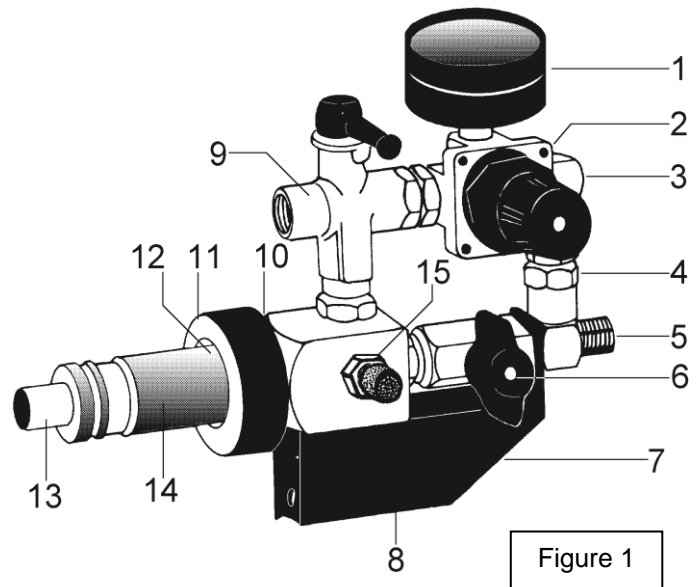

Figure 1
3.8 Turn on Start/Stop Knob (Figure 1, Item 6) to spin rotating head. Squeeze spray gun trigger to begin paint flow. Release trigger immediately if carriage movement is interrupted. It is critical that the operator pulling the PIPECOATER hose move the tool through pipe at even rate to avoid excessive paint thickness. Speed of tool movement varies with pipe diameters. Small pipes can be painted faster than larger pipes. If two or more coats are desired, allow each coat to dry sufficiently prior to applying the next coat. Refer to paint manufacturers instructions for accurate drying time.
6.2 Control gun assembly (see Figure 1) 71213